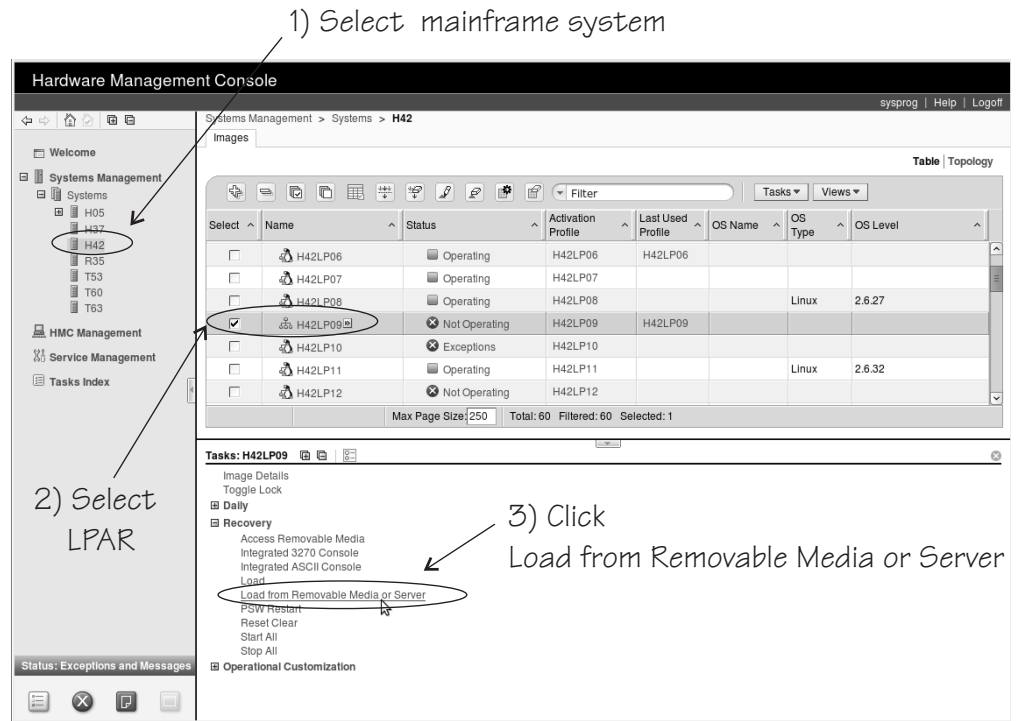

Figure 27. Load from Removable Media or Server task on the HMC
3. In the **Tasks** area, expand **Recovery** and click **Load from Removable Media or Server** (see Figure 27).